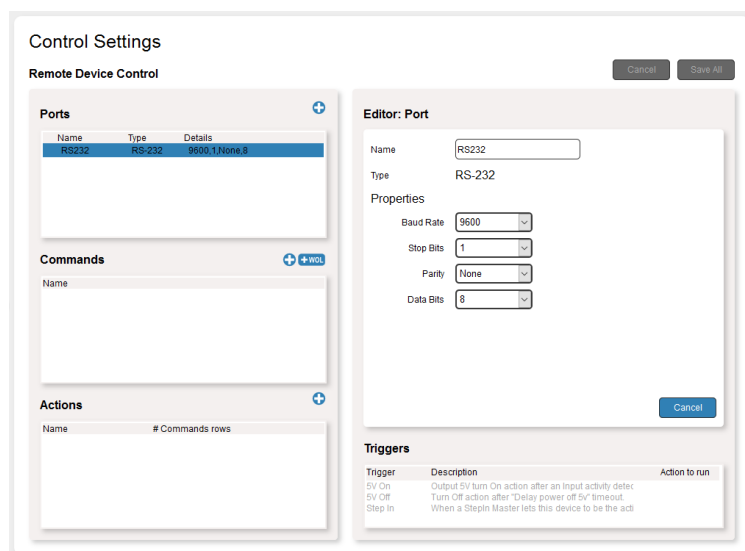

Figure 1: Configuring an RS-232 Port
- For RS-232 select baud rate, stop bits, parity and data bits (Figure 1).